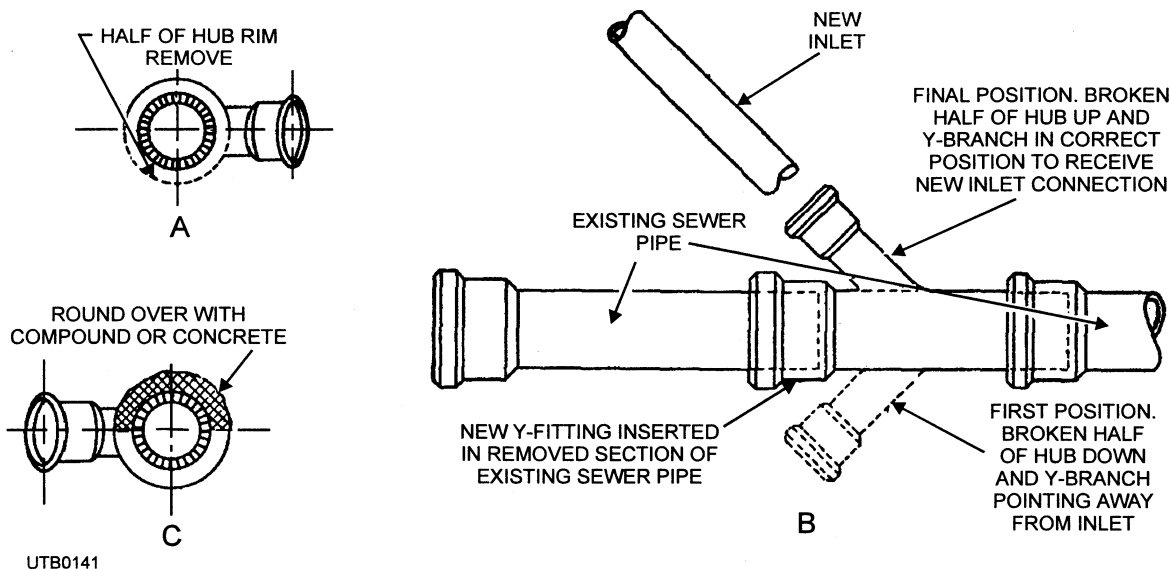

Figure 5-39.—Adding connections to an outside vitrified clay sewer pipe.
2. Break half of the hub rim of the new Y-fitting, as shown in view A, figure 5-39.
3. Insert the spigot end of the Y-fitting into the hub of the existing pipe. At the same time, place the remaining half of the hub end of the Y-fitting over the cut end of the existing pipe with the Y-branch pointing away from the new inlet. (See the first position of view B, fig. 5-39.)
4. Rotate the Y-fitting, so the broken half of the hub is up and the Y-branch is in the correct position to receive the new inlet connection. (See the final position of view B, fig. 5-39.)
5. Pour the joint carefully; round over the broken half of the hub with plenty of concrete or mastic compound, as shown in view C, figure 5-39.